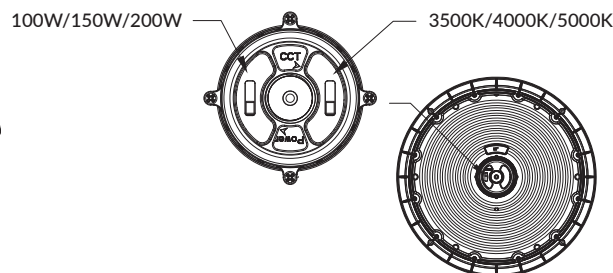

Figure 2
- Select the output wattage by sliding the power select switch (Figure 2)*.